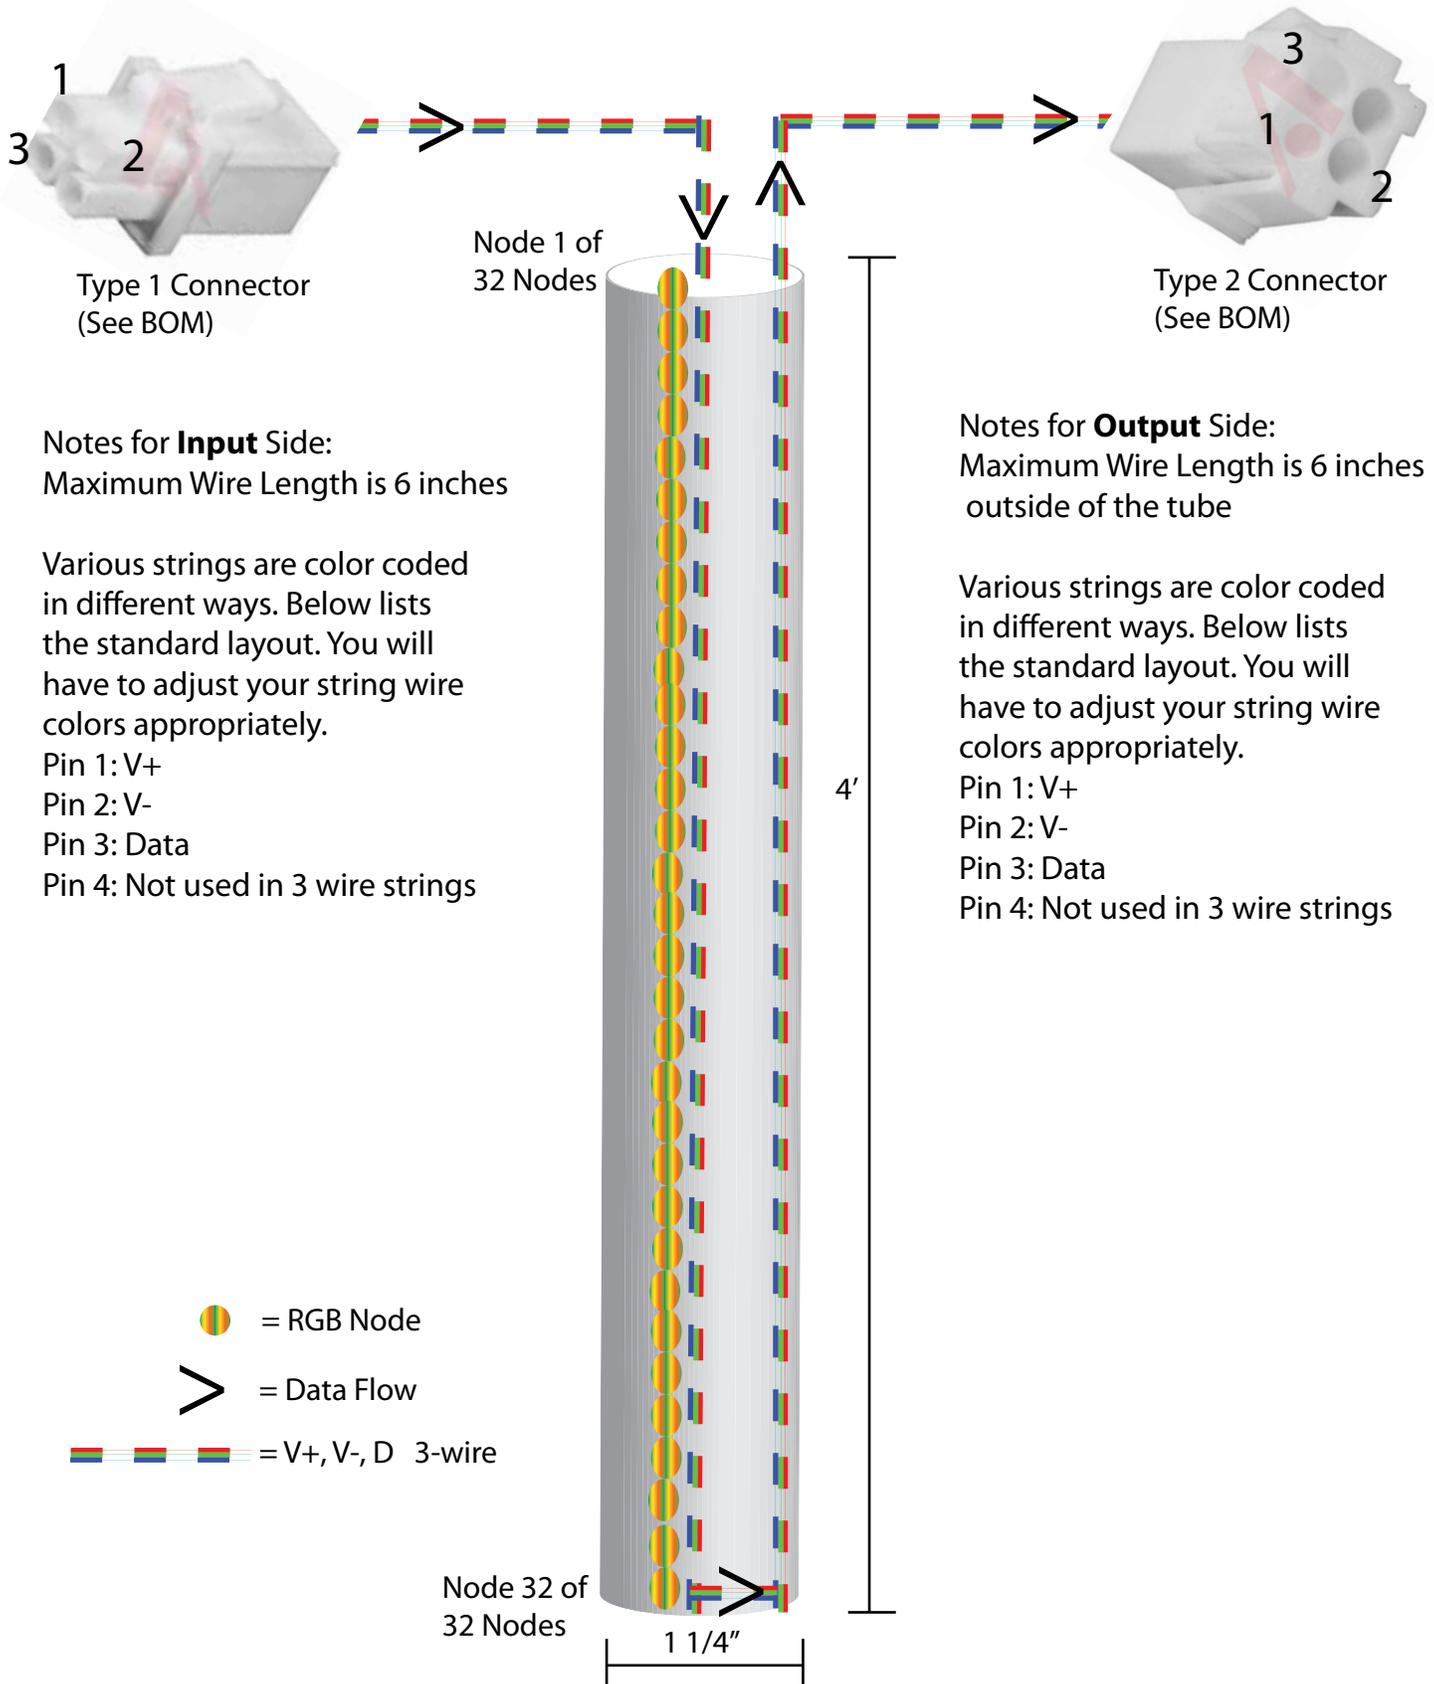

Figure 1
3.1. Refer to Figure 1 on page 4 for a graphic layout design of a tube segment.
5. **Internal Tube Design** (See Figure 1): I looked at several possibilities for layout of the nodes within each tube. The design being used, I think, provides maximum capabilities in each tube (icicle) segment, the highest resolution within each tube, and the best overall use of resources for each tube “system”.